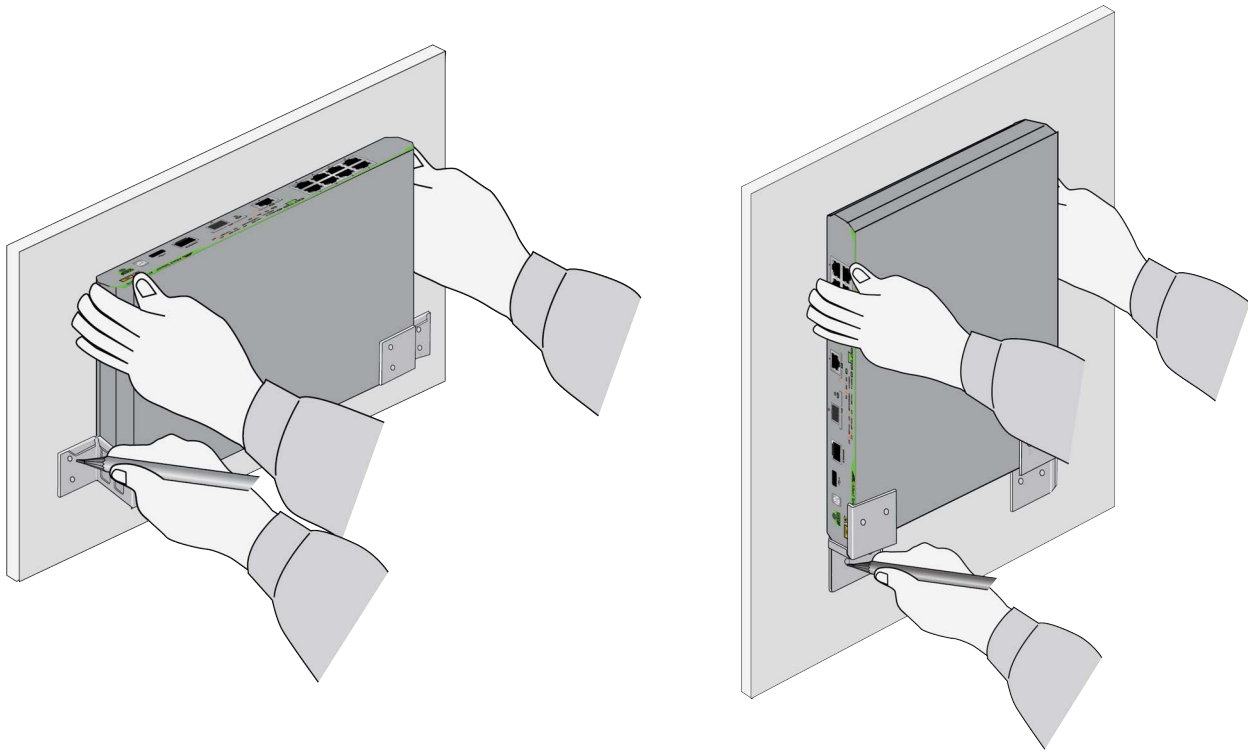
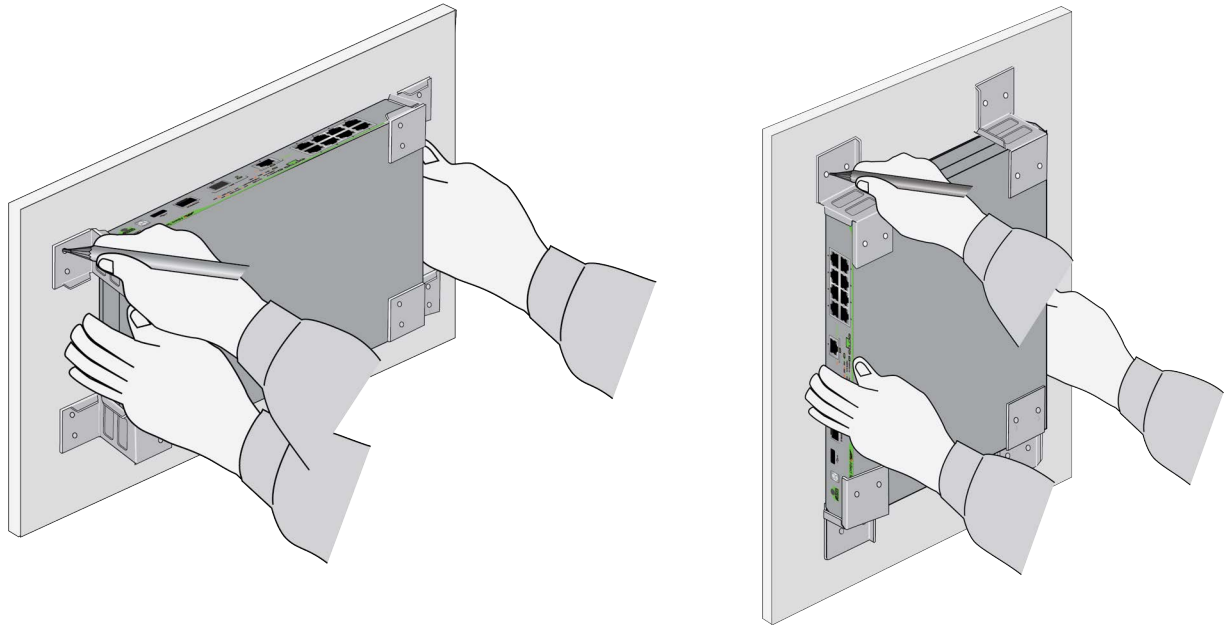

Figure 50. Marking the Screw Holes for Two BRKT-J23 Brackets
Figure 51. Marking the Screw Holes for Four BRKT-J23 Brackets
4. Position the brackets on the wall and mark the bracket screw holes. Refer to Figure 50 and Figure 51 on page 91.